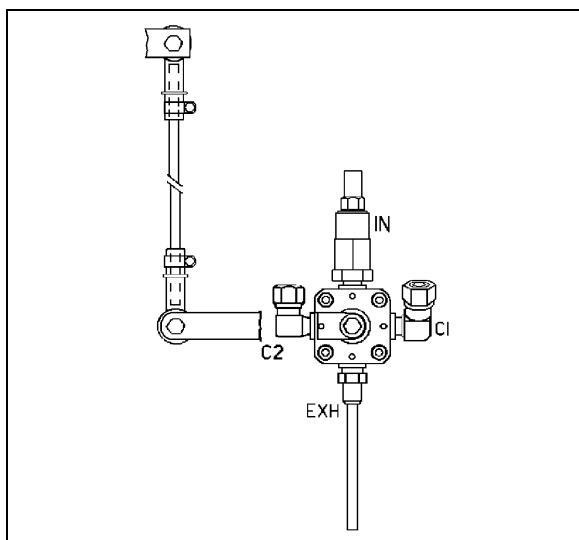

FIGURE 51: FRONT HEIGHT CONTROL VALVE 16100
2. Loosen the clamp on the height control valve rubber coupling and bring it up or down (Fig. 51).